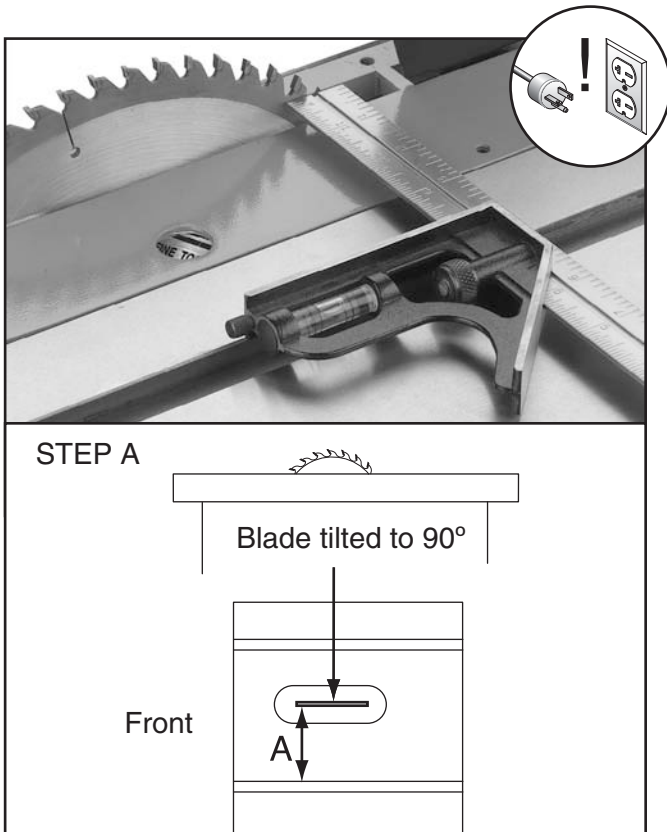

Figure 103. Example of adjusting blade to miter slot.
2. Use an adjustable square to measure the distance from the miter slot to a carbide tip on the blade, as shown in **Figure 103**. Make sure that the face of the adjustable square is even along the miter slot.